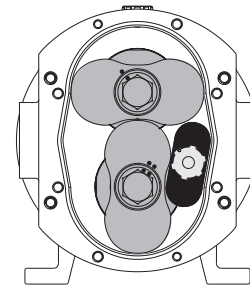

Figure 8
5. Reposition the rotor locking tool **111** as shown in figure 8.